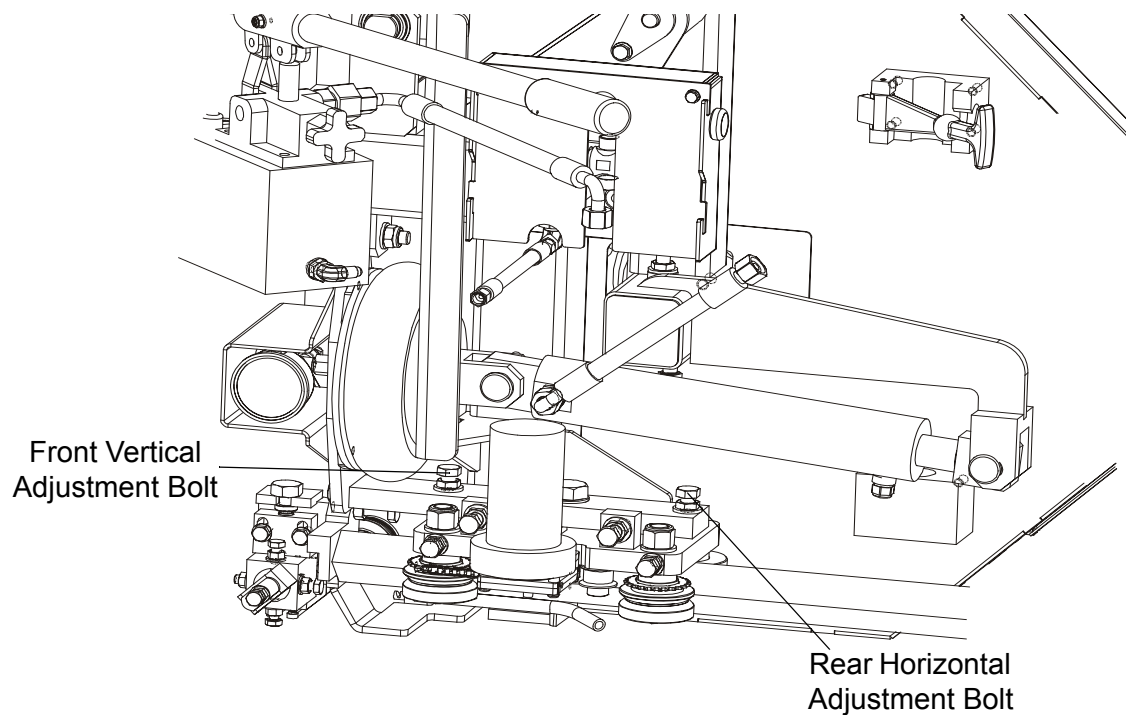

**FIG. 5-30**
**See Figure 5-30.** Adjust the blade guide arm to 1/2" (15 mm) from fully open. Measure the distance from the bottom of the blade guide mounting block to the bed rail. This measurement should be 15" (376 mm). If the measurements are not the same, adjust the blade guide arm vertically.